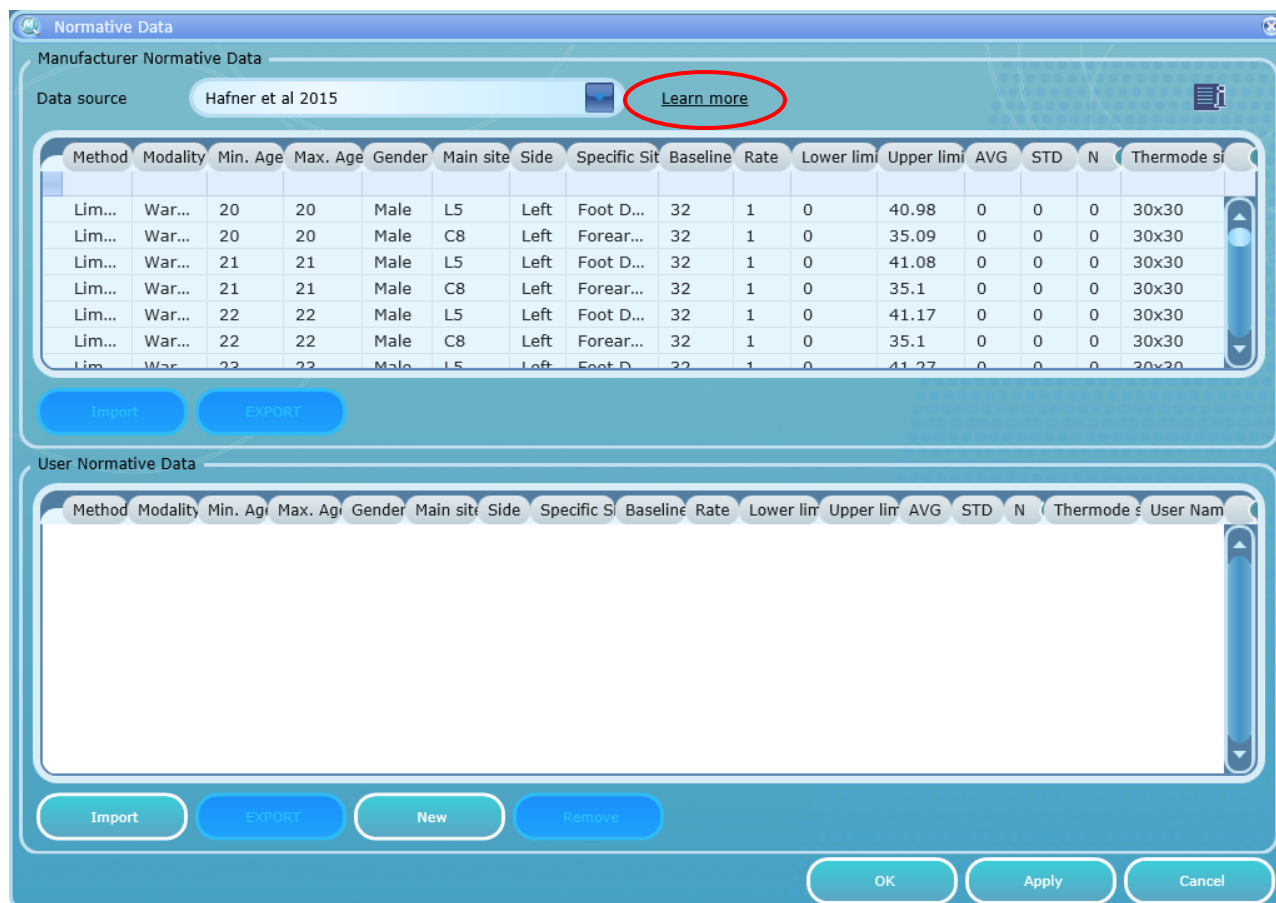

Figure 95: Normative Data Editor - Learn More
4. To learn more about the selected normative data source click on the “learn more” link. Please note this link may not be available for all sources. See Figure 95.